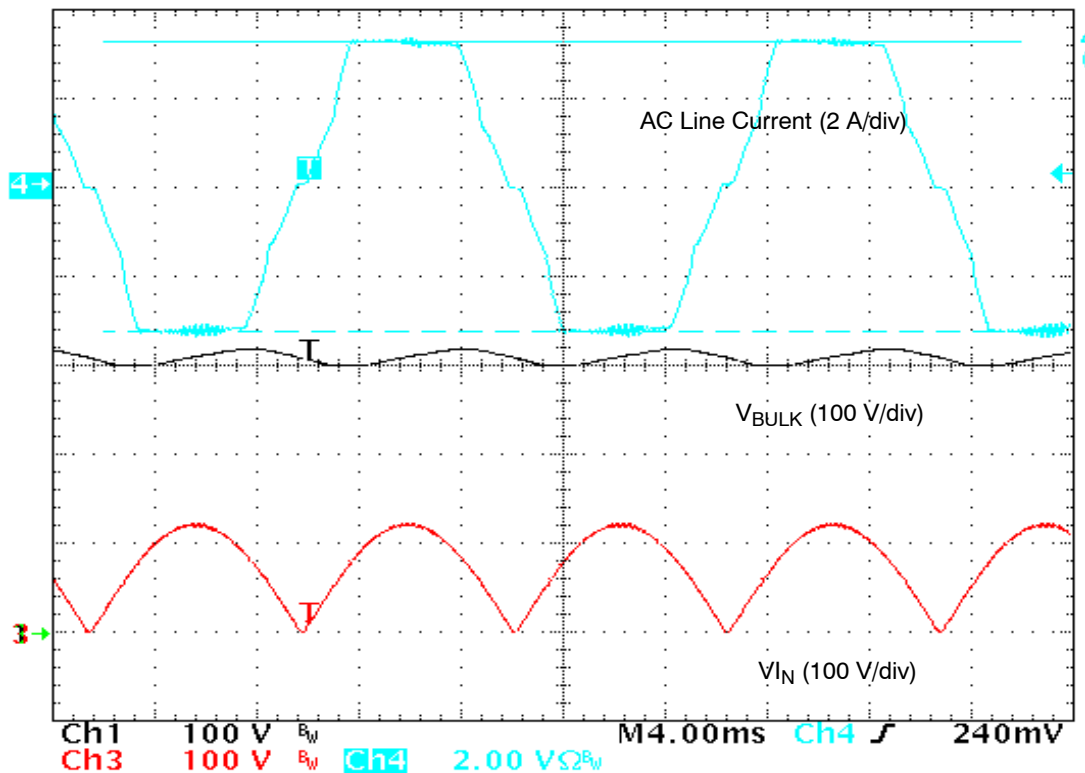

Figure 14. Action of the Overcurrent Limitation
- As shown by Figure 14, the line current is limited to 3.2 A. This corresponds to proper expected level with $R_{OCP} = 2.4 \text{ k}\Omega$: